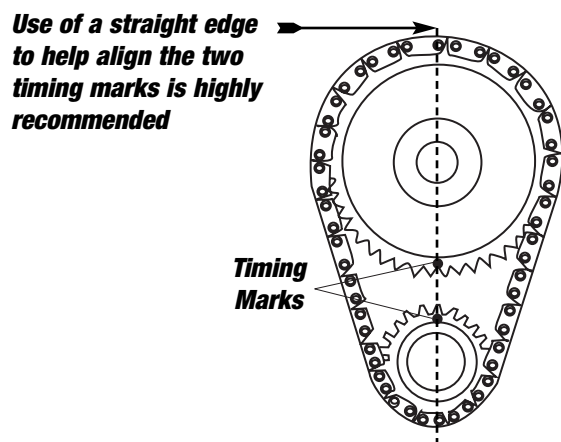

Figure 1
13. Rotate engine until timing marks are aligned as shown in **Fig. 1**.
Install camshaft with timing marks lined up as recommended by factory specifications. See Figure 1.
1. After the cam is installed and timed correctly (**see Figure 1**), it will be necessary to check each pushrod for correct lifter pre-load.